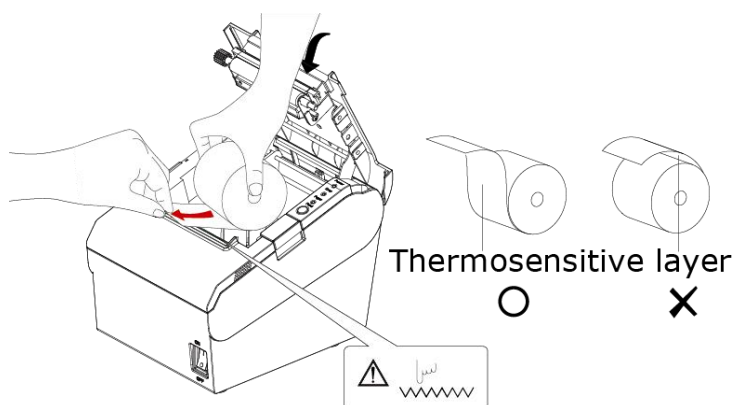

Figure 4.6.2
- 3) Put the paper into printer. Pay attention to the direction of the paper. (Like figure 4.6.2)